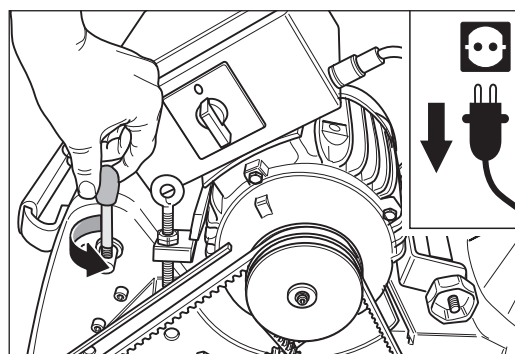

Fig. 61 Unscrew the operating lever of the drive unit.
- 7 Remove the operating lever of the drive unit by unscrewing (Fig. 61).